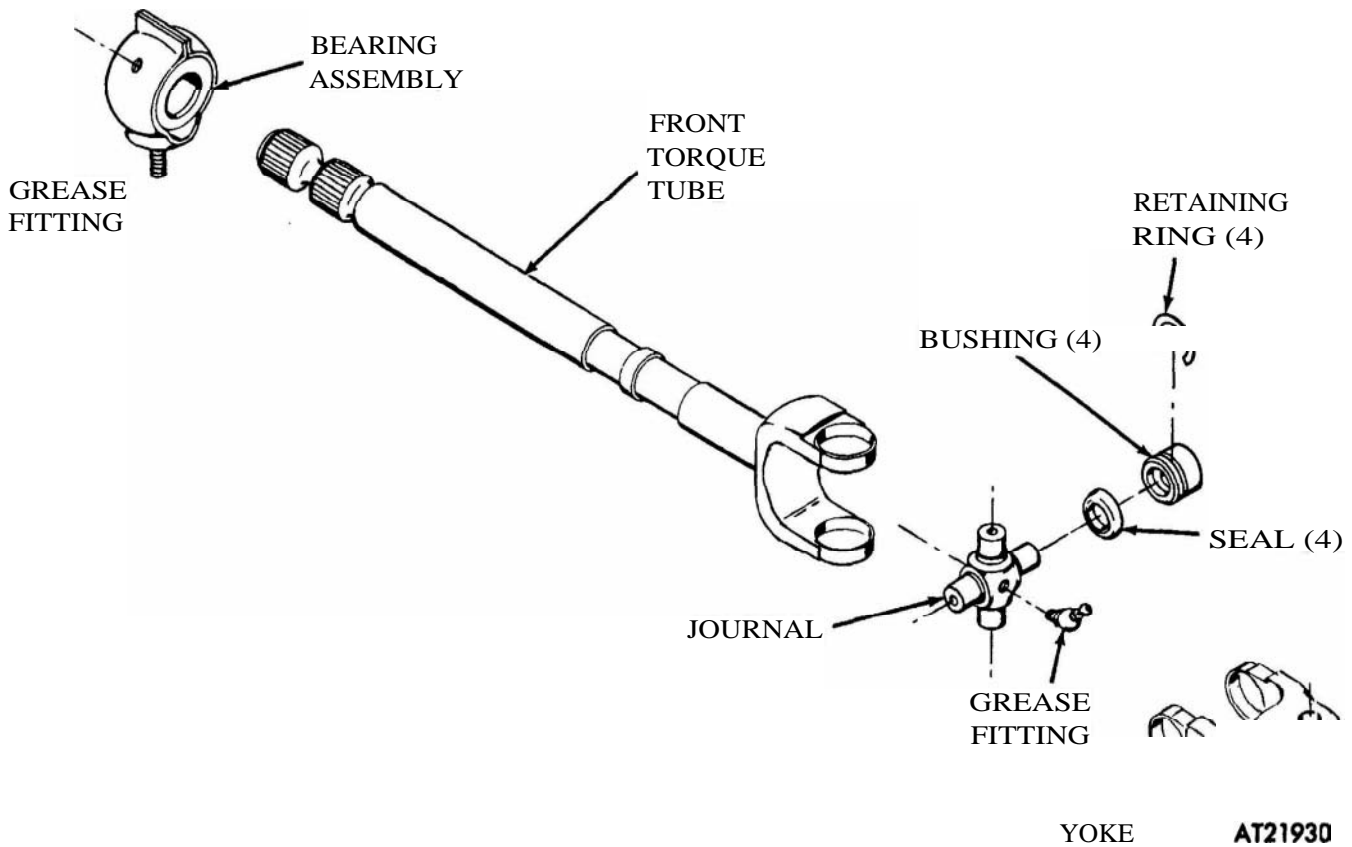

Figure 2-277. Tractor front torque tube, disassembly and assembly.
(1) Remove nut, lock washer, and screw securing universal yoke to steering gear box output shaft. Remove universal joint.
(2) Slide bearing from front torque tube (fig 2-277 I).
(3) Disassemble universal yoke and journal assemblies according to the following steps: